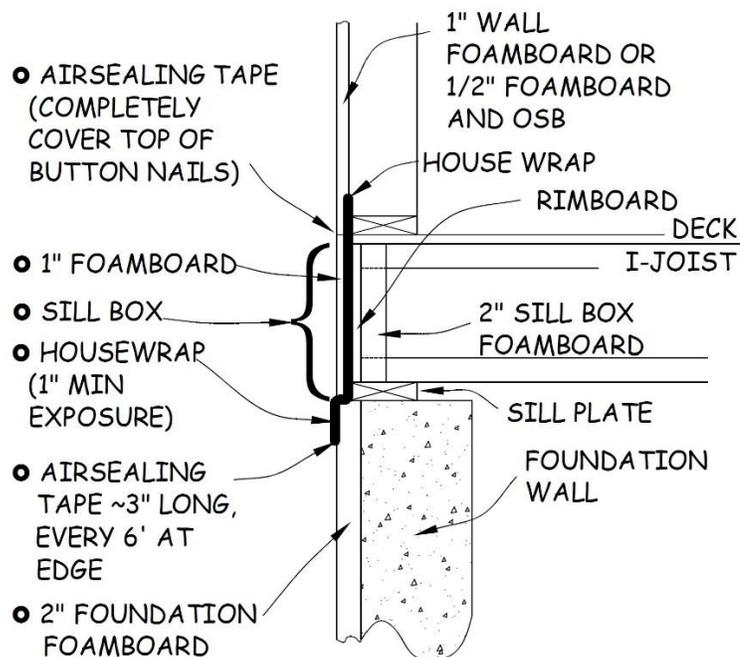

Figure 5-1. House Wrap and Foamboard Seams.
NOTE: Once the wall is erected, the wrap will hang the proper amount below the wall to shed water away from the house at any horizontal seam. The bottom of the wrap will fall slightly below the bottom of the foam sheathing and slightly over the 2" foundation foam (see Figure 5.1).
1. Measure and cut 1" foamboard to fit on the exterior of the sill box, **tightly** between the bottom of the wall foamboard and the foundation foamboard. Do the same below any OSB/½" foamboard wall panels. Install the foamboard with 2" button nails about 8" apart and 2" away from the top and bottom seams of the foamboard. Make sure the house wrap is **behind** this foamboard, leaving any extra wrap protruding from the seam between the bottom of the sill box foamboard and the top of the foundation foamboard (see Figure 5-1).
CAUTION: House wrap must extend at least 1" over the surface of the 2" foundation foamboard (see Figure 5-1). If it does not, see the Construction Supervisor.
where the house wrap emerges from below the sill box foamboard. Instead, tape the bottom of the house wrap to the foundation foamboard every 6' with a 3" piece of air sealing tape just to hold it down (see Figure 5-1).